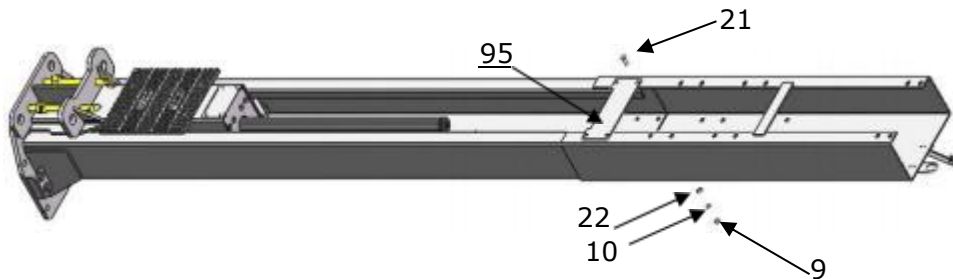

Fig. 21 High Setting
1. High Setting, connecting the lower holes of outer columns with inner columns (**See Fig. 21**).